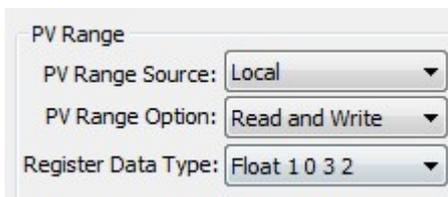

Figure 5.54 Selection of register data type
1. Select "Detailed Design"->"PV range"-> the drop-down box corresponding to"register data type", as shown in Figure 5.54